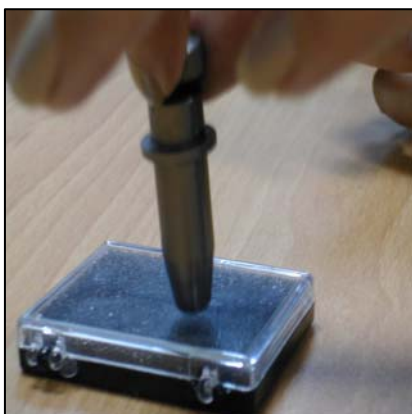

Figure 2-9
2. Push the blade to the bottom of the blade holder. (Figure 2-9)